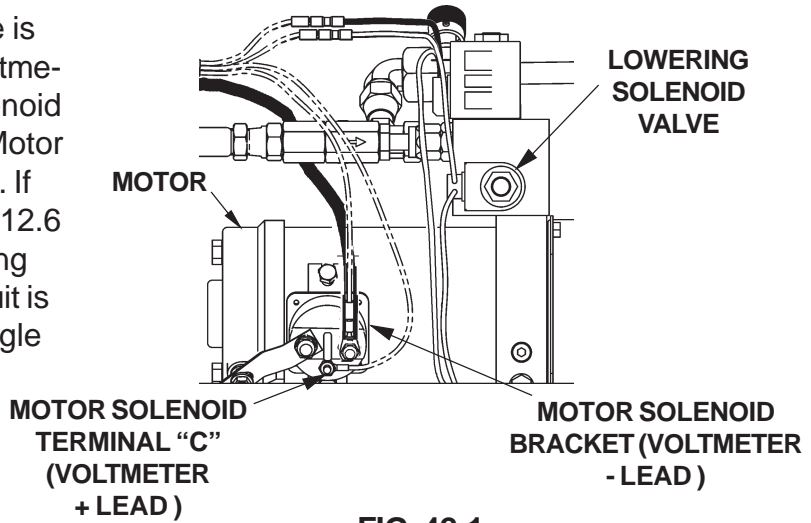

FIG. 42-1
1. Check if Lowering Solenoid Valve is constantly energized. Connect voltmeter negative (-) lead to Motor Solenoid bracket and positive (+) lead to Motor Solenoid terminal "C" (FIG. 42-1). If voltmeter reads battery voltage (+12.6 Volts DC minimum) without pushing the toggle switch, the control circuit is operating incorrectly. Check if toggle switch, wiring or coil are faulty.